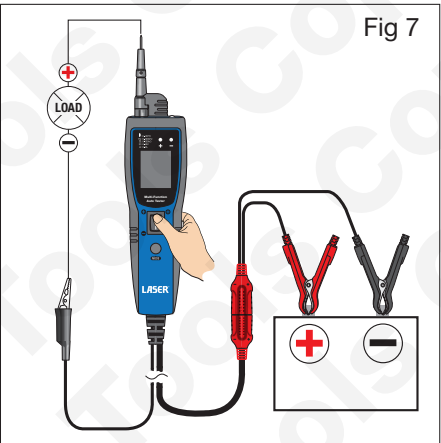

Fig 7
- 2. Refer to Figure 7: Connect the test probe to the positive and the auxiliary ground (earth) clip (K) to the negative of the test load. Press the power-probe supply switch (F) forward.